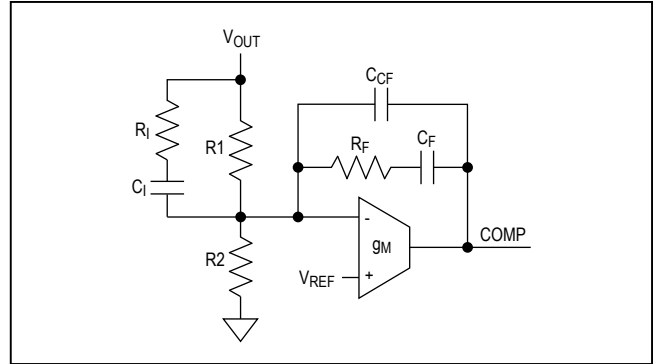

Figure 7. Type III Compensation Network
**Procedure 2 (see Figure 7)**